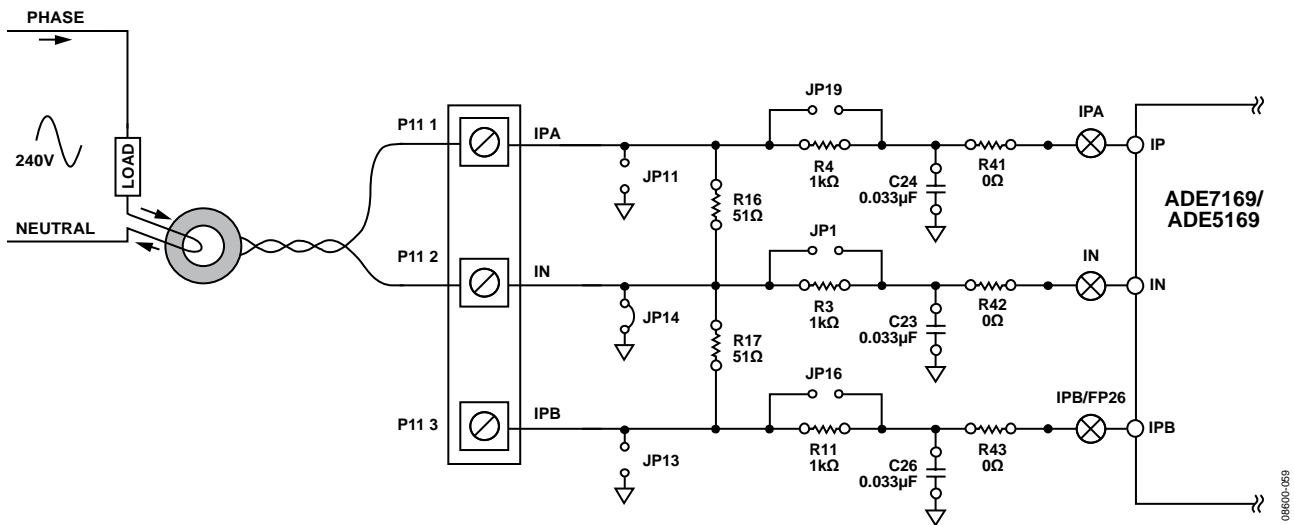
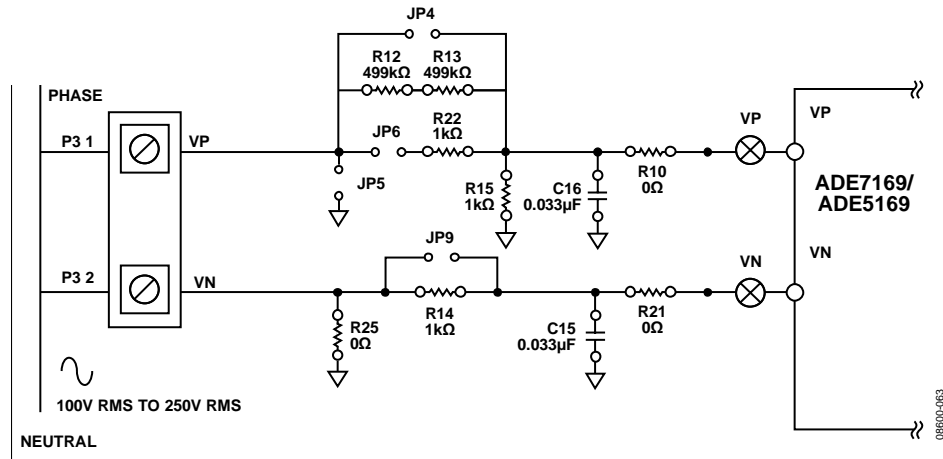

Figure 5. CT Sensor Connection to Current Channel
Figure 9. Typical Line Voltage Connection
The mains should not be energized before verifying the connection of the analog inputs is correct (see Figure 5 to Figure 9 in the Analog Inputs (P3 and P11) section), according to the current sensor type. In addition, JP4 on the voltage input should be verified to be open before using the mains connection to prevent damage to the IC. If connecting the board to external equipment such as a PC, ensure that the communication channel is isolated using the USB-to-UART converter. The evaluation board and communication boards should not be handled when the supply is connected.
Figure 5 shows how a current transformer (CT) can be used as a current transducer in a single-phase, 2-wire distribution system. The CT secondary current is converted to a voltage by using a burden resistance across the secondary winding outputs. Care should be taken when using a CT as the current transducer. If the secondary is left open, that is, no burden is connected, a large voltage may be present at the secondary outputs. This can cause an electrical shock hazard and potentially damage electronic components.
The voltage input connections on the ADE71xx/ADE75xx/ADE51xx/ADE55xx evaluation board can be connected directly to the line voltage source. However, an isolation transformer is recommended for safety reasons. The line voltage is attenuated using a simple resistor divider network before it is presented to the ADE71xx/ADE75xx/ADE51xx/ADE55xx. The voltage channel is recommended to be used in a single-ended configuration. Figure 9 shows a typical connection for the line voltage.